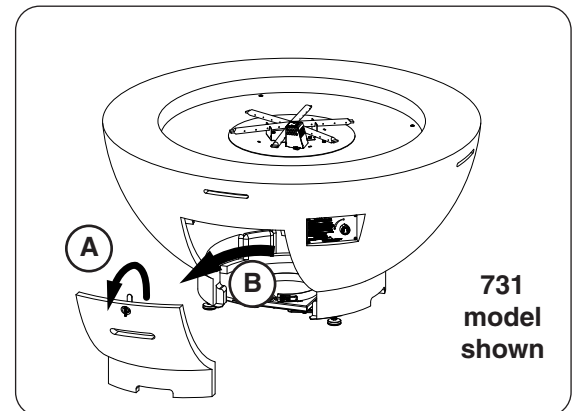

Fig. 27-2 Remove storage door (if applicable)
2. If equipped remove the storage door by first turning the door handle counter-clockwise, then carefully pulling the door outward (see Fig. 27-2). Store in a safe location.